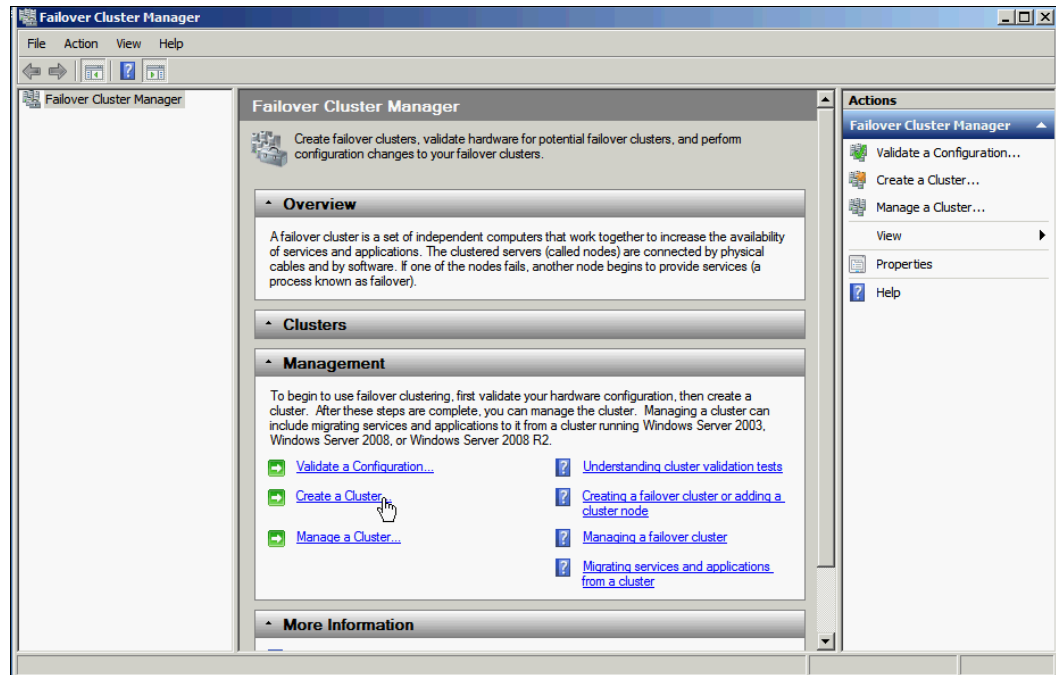

Figure 19-17 Create a Cluster
1. Confirm that **Failover Cluster Management** is selected and then, in the center pane under **Management**, click **Create a cluster** as shown in Figure 19-17 on page 571 and click **Next**.